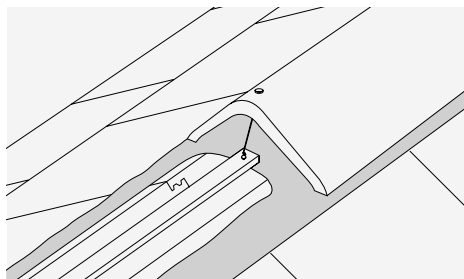

Fig. 19 – Bedded ridge tile using mortar bedded security ridge fixing
- 1 Edge-bed ridge tiles onto the top course tiles with solid bedding at butt joints (Fig. 19) and ensure all ridges are mechanically fixed.